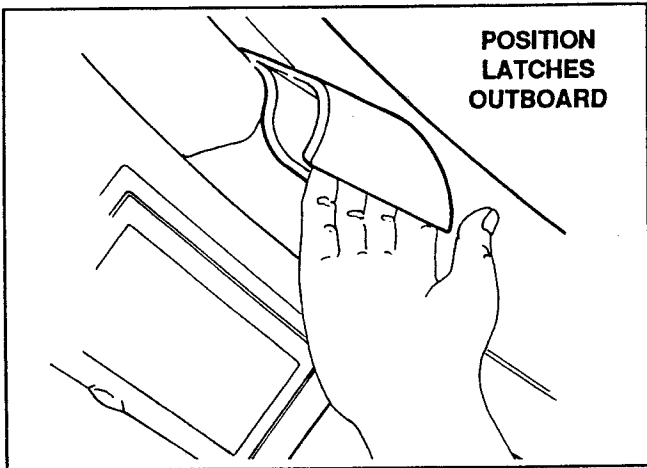

Figure 6. Release Latches
1. Place the transaxle in Park and the ignition in Run. Lower the sun visors and rotate the 1-bow latch augers outboard (Fig. 6). Be sure the deck lid is closed.